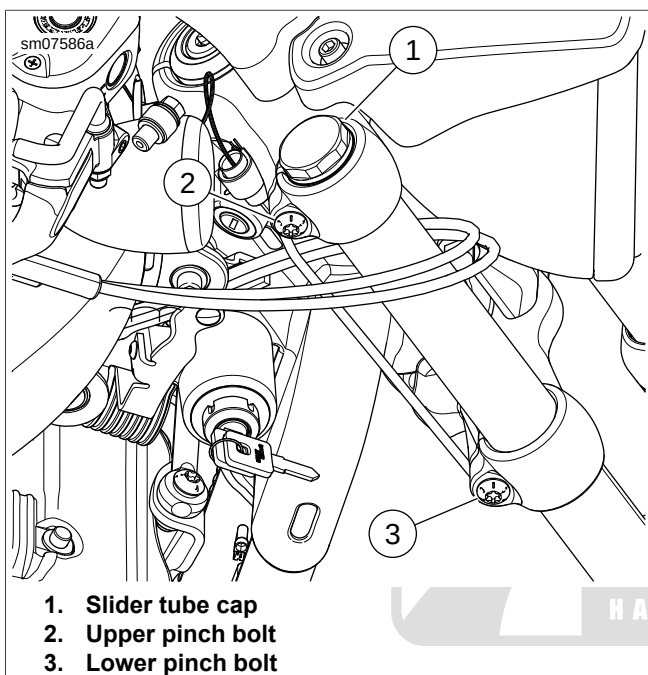

Figure 2-139. Fork Tube Bracket
4. See Figure 2-139. Loosen, but do not remove, slider tube caps (1).